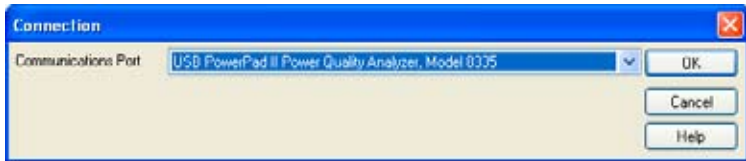

Figure 7-5
- The **Connection** window will appear (see Figure 7-5).